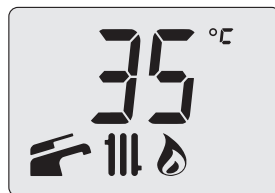

Figure 7.7
- Press the 17 button (Figure 7.2) to exit "programming mode" (Figure 7.7).